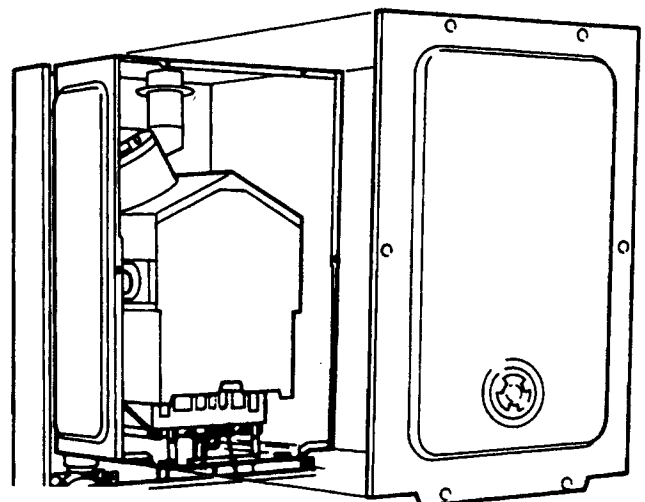

Fig. 24
Part No 5904 Refer to fig. 24
8.5.2 Remove roomsealed front cover plate by releasing eight screws (fig. 24) and easing cover off. The screws are not captive. inspect gasket for damage. If damaged, replace.